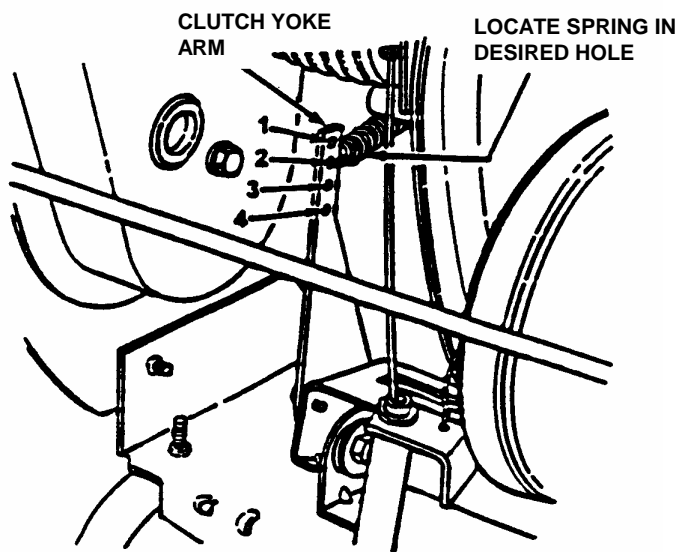

FIGURE 4.7
5. Move spring to first hole (for positive clutch action) to 4th hole (to increase clutch slippage). See Figure 4.7.